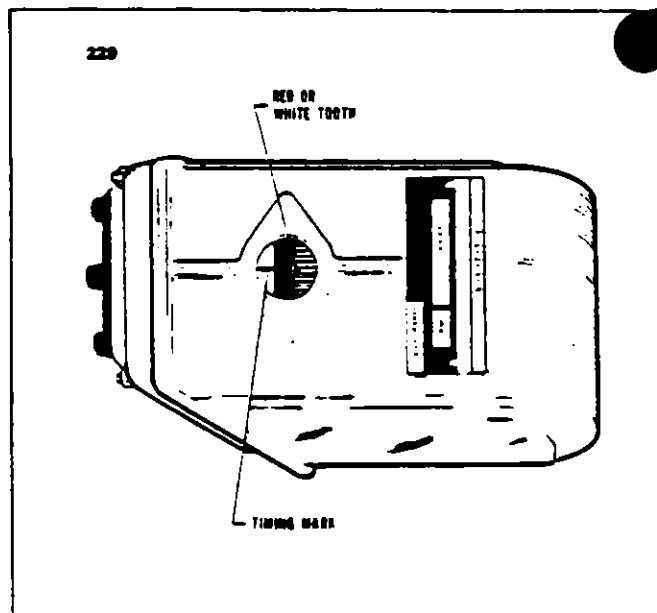

FIGURE 7C-15. MAGNETO TIMING MARKS
b. Continue turning the crankshaft until the 25° advance timing mark is in alignment with the small hole located on the top face of the starter housing at the two o'clock position. (Refer to Figure 7C-14)